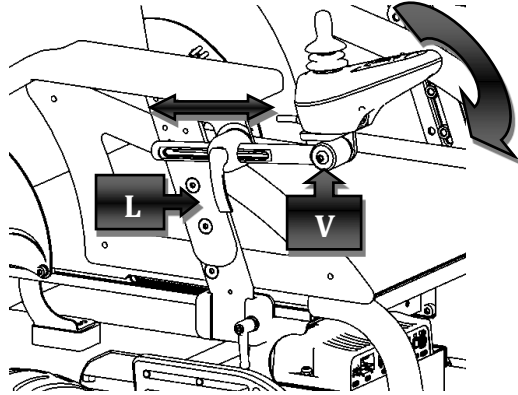

Figure 10
Loosen the lever (L), as shown in Figure 10, so it is possible to move the joystick in depth to reach the desired position. Retighten the lever. To adjust the angle of the joystick you must act on the screw (V)